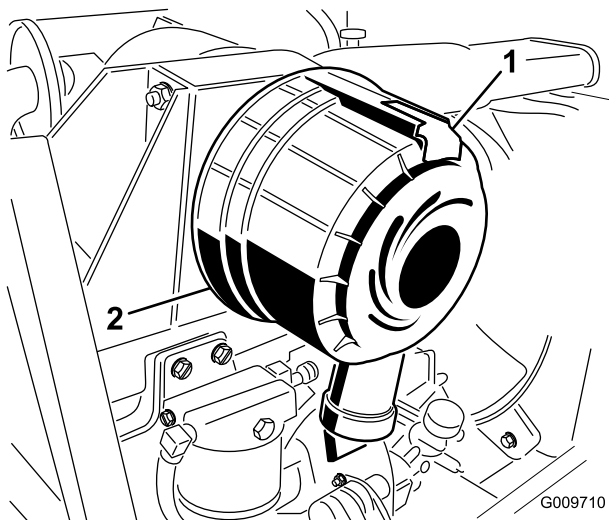

Figure 28
1. Pull the latch outward and rotate the air-cleaner cover counterclockwise (Figure 28).